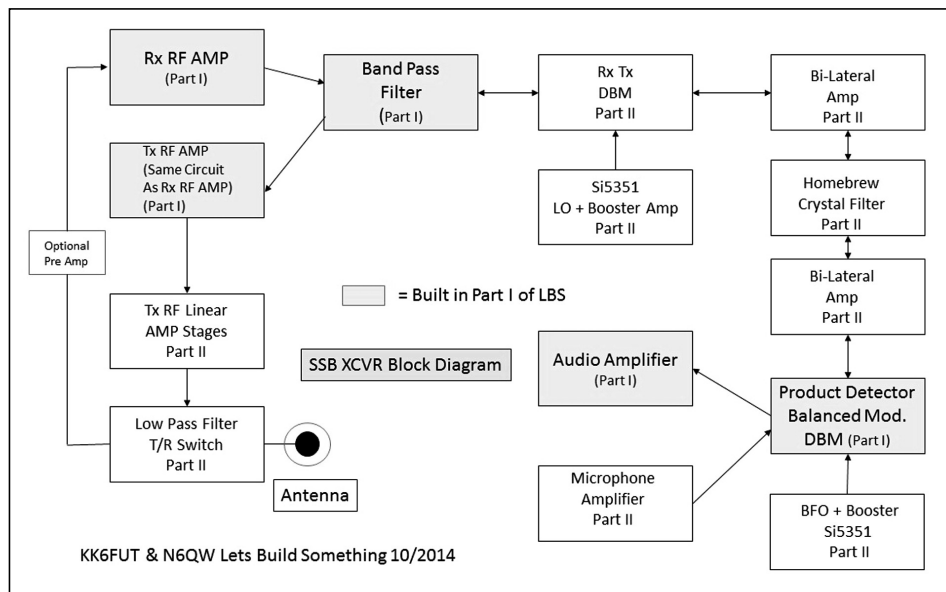
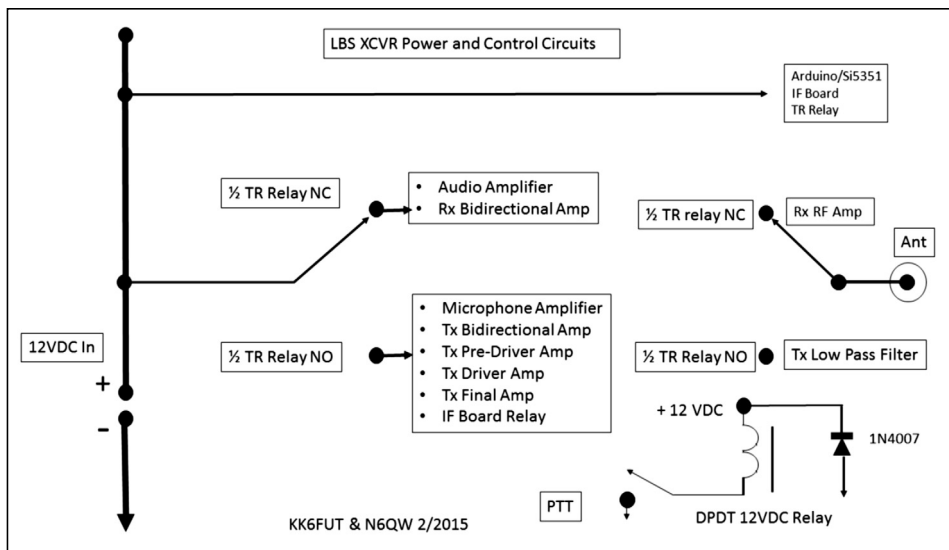
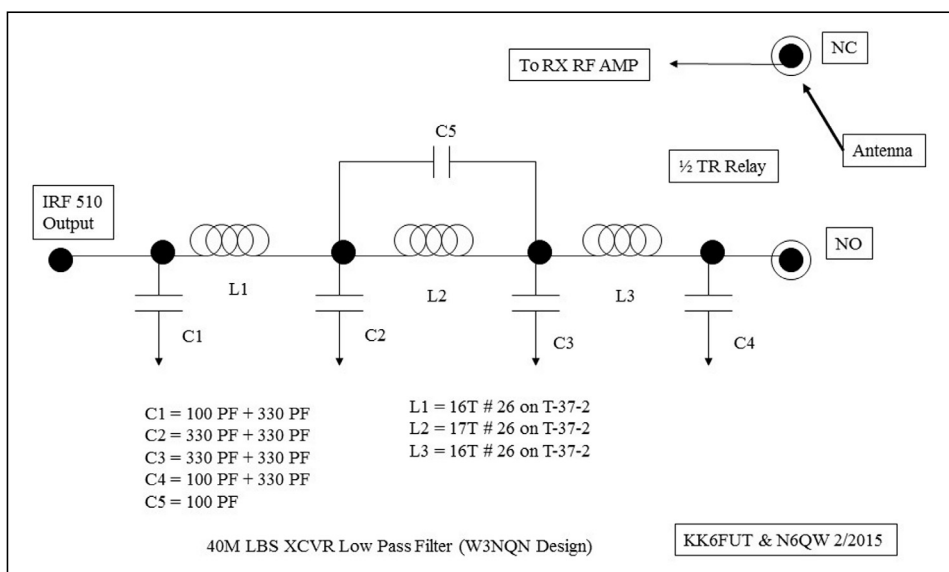

Figure 1—Revised SSB Transceiver block diagram.
Figure 9—Transceiver control circuits.
Figure 10—40M Low Pass Filter (W3NQN design).
Part II of this project takes that receiver and turns it into a simple SSB transceiver. Figure 1 is the revised block diagram, which accounts for a design change resulting from some new technology that is now available. We have also added an optional additional receiver preamplifier stage. Later in the article, we will give you some ideas for adding circuitry that could result in a much more sophisticated device. But for now, let's see about finishing the project we started.
*Low Pass Filter & Control Circuits*—needed for cleaning up the transmitter output and to control the Receive to Transmit switching. Figure 9 presents the Control Circuits and Figure 10 is the schematic of the Low Pass Filter based on the W3NQN design.
The architecture for our transceiver appeared in Figure 9 of the LBS Part I, repeated here and somewhat modified in Figure 1. In Part II, we need to account for the interconnections, relay switching and voltage switching from Receive to Transmit. See Figure 9 of this Part II article, which shows the switching and interconnections.